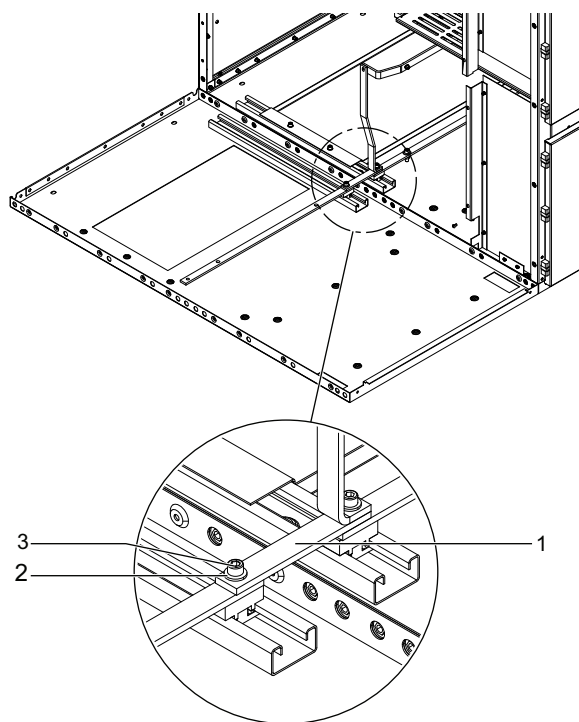

Figure 30
2. Screw-fasten connecting bar on both sides to the earth bar, refer to Figure 30.
- The connection is located at the base of the cubicle (Figure 30).
1. Install the connecting bar (1) by sliding it from one cubicle to the adjacent cubicle (Figure 30).
2. Insert the screw (3) with washer (2) and tighten it with the torque of 35 N•m.